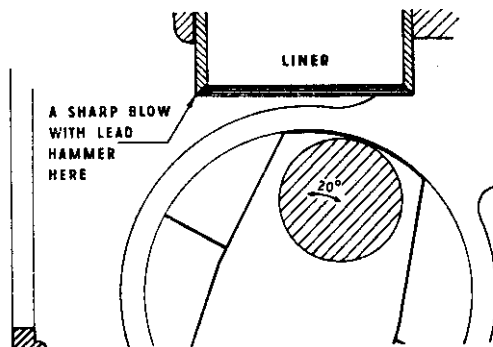

Fig. 1
- i. Turn crank so that maximum accessibility is given to the bottom of the liner at the back of the engine—this is approximately with crank 20° after top dead centre, see Fig. 1.
- iii. Through the crankcase door hole at the back, give the liner a sharp blow at the point indicated in Fig. 1 and it should move—if it does, knock it up until the top flange clears the housing, when the liner may be lifted out.